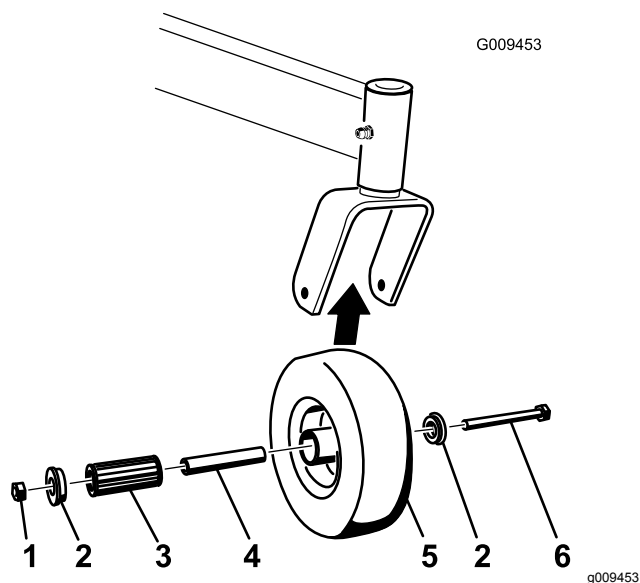

Figure 56
1. Remove the locknut and wheel bolt holding the caster wheel to the caster fork (Figure 56).
2. Remove 1 bushing, then pull the spanner bushing and roller bearing out of the wheel hub (Figure 56).
3. Remove the other bushing from the wheel hub and clean any grease and dirt from the wheel hub (Figure 56).
Note: Replace any damaged or worn parts (Figure 56).
5. Place 1 bushing into the wheel hub (Figure 56).
6. Grease the roller bearing and spanner bushing, and slide them into the wheel hub (Figure 56).
7. Place the second bushing into the wheel hub (Figure 56).
8. Install the caster wheel into the caster fork and secure it with the wheel bolt and locknut (Figure 56).
9. Tighten the locknut until the spanner bushing bottoms against the inside of the caster forks (Figure 56).